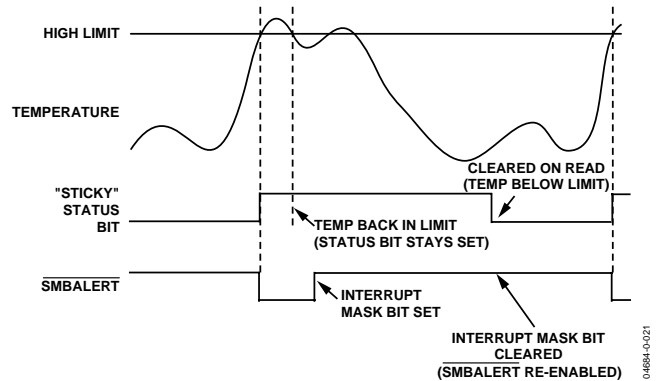

Figure 22. How Masking the Interrupt Source Affects  $\overline{\text{SMBALERT}}$  Output
7. Periodically poll the status registers. If the interrupt status bit is cleared, reset the corresponding interrupt mask bit to 0. This causes the  $\overline{\text{SMBALERT}}$  output and status bits to behave as shown in Figure 22.